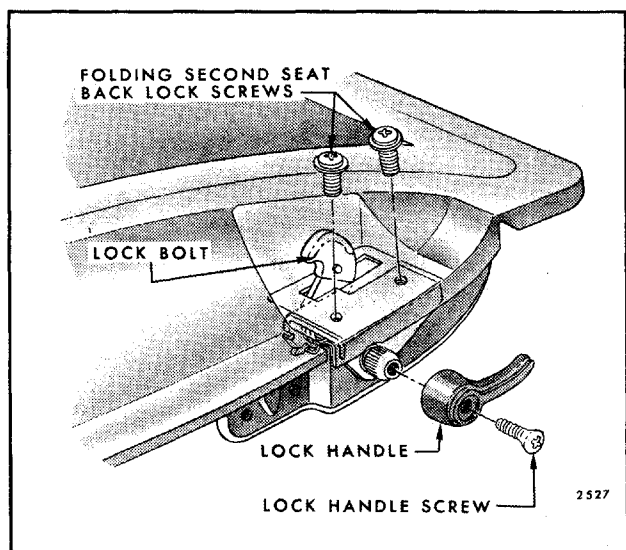

Fig. 9-91-Folding Second Seat Back Lock Installation - All "A" Styles
2. Remove seat back lock handle attaching screw and remove lock handle (Fig. 9-91).
3. Remove seat back lock retainer attaching screws and remove seat back lock retainer and lock from seat back panel (Fig. 9-91).